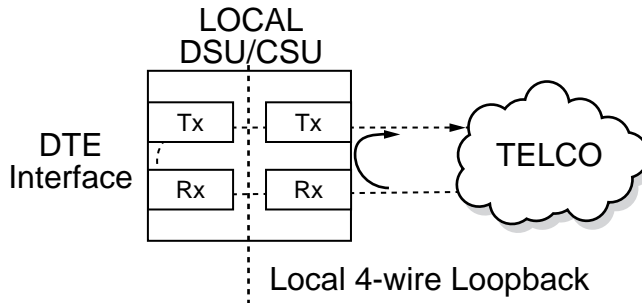

Figure 11-7
The Loop Only (RT) test allows the loop interface and a major portion of the DTE interface for the local DSU III S2W to be tested from the remote site over the actual communication circuit. Figure 11-7 illustrates the loopback point and the signal paths for this test.